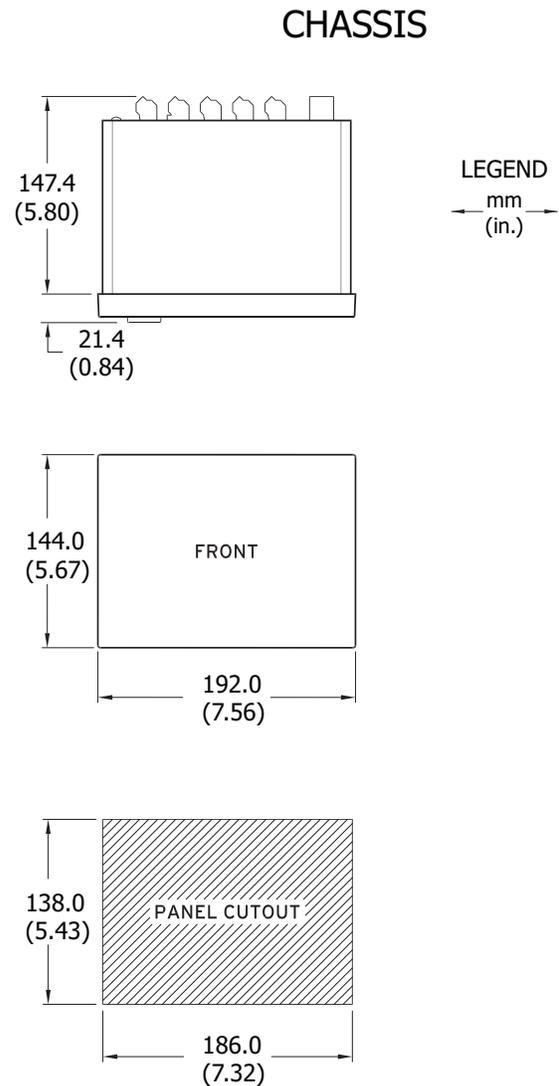

Figure 1 Panel Cut-and-Drill Diagram
Step 4. Attach the product/projection collar assembly to the pre-cut panel (see *Figure 1*) with 8-32 UNF screws.